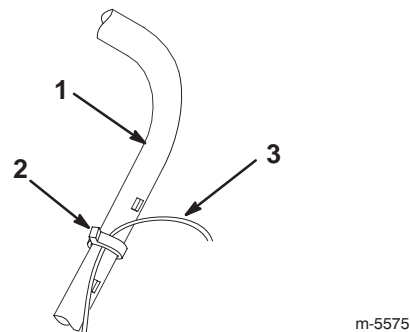

Figure 4
1. Cut the plastic tie that secures the control cable to the handle (Fig. 4).